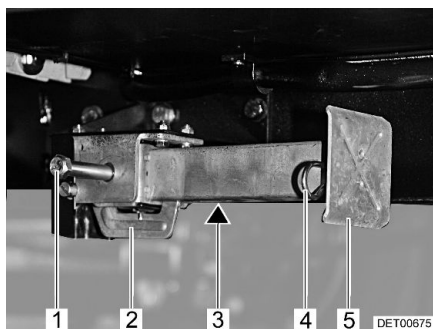

Fig. 14 Steady leg
- Place the socket spanner on the hexagon nut (Fig. 14,1) and rotate until the steady leg is in a perpendicular downward position.
- If the length of the steady leg can be adjusted, remove the splint (Fig. 14,4) out of the support foot extension (Fig. 14,5).
- Place the socket spanner on the hexagon nut (Fig. 14,1) and rotate until the steady leg is clear of the ground.
- Push in the support foot extension (Fig. 14,5) and insert the splint (Fig. 14,4) in the drilled hole in the support foot extension.
- Rotate the hexagonal nut (Fig. 14,1) until the steady leg has swung upwards and the guide (Fig. 14,2) has reached the very end of the slot (Fig. 14,3).